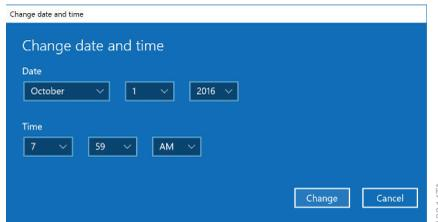

Figure 118. Adjusting date and time. Use the drop-down menus on the ‘Change date and time’ screen to adjust the displayed date and time on the Tablet PC.
- h. On the ‘Change date and time’ screen (Figure 118), use the drop-down boxes to select the appropriate date and time for your location.